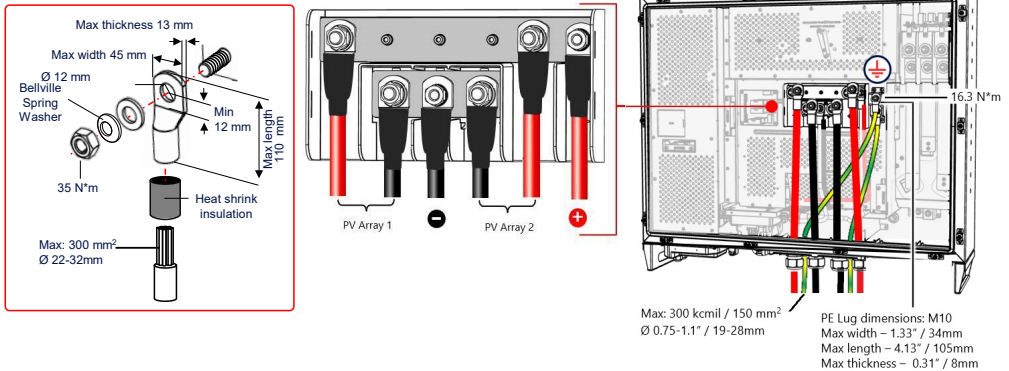

Figure 22: Connecting the DC wires to the Inverter
6. Connect the DC wires to the DC bus-bar according to the labels on the terminals. Tighten the nuts to 35 N*m (see *Figure 22*).